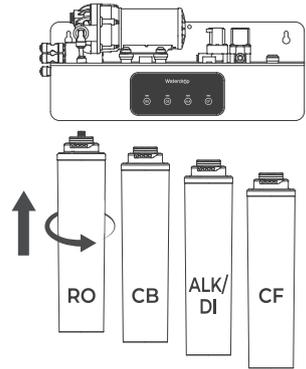

Figure 11
2. Take the filter corresponding to the position, insert it into the filter connector from bottom to top, and turn it counterclockwise to lock. **(Figure11)**